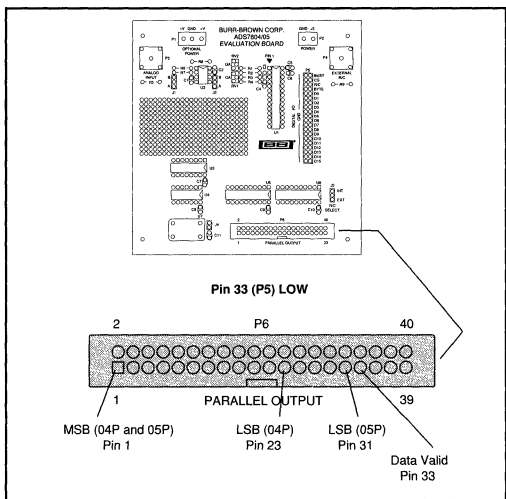

FIGURE 11. Location of MSBs and LSBs on P6.
B) P6 outputs buffered full parallel data—See Figure 11.